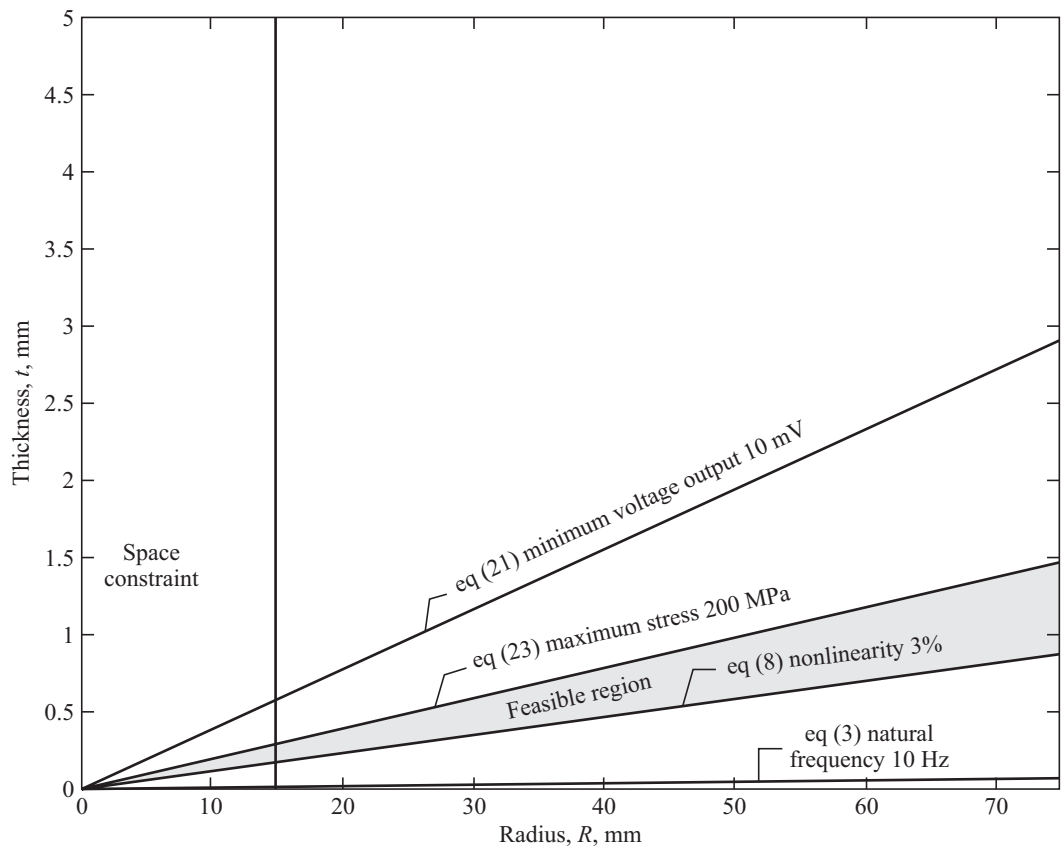

Fig. 2
Equation (23) is plotted for various values of R and the corresponding values of t . Figure 2 gives the feasible region.